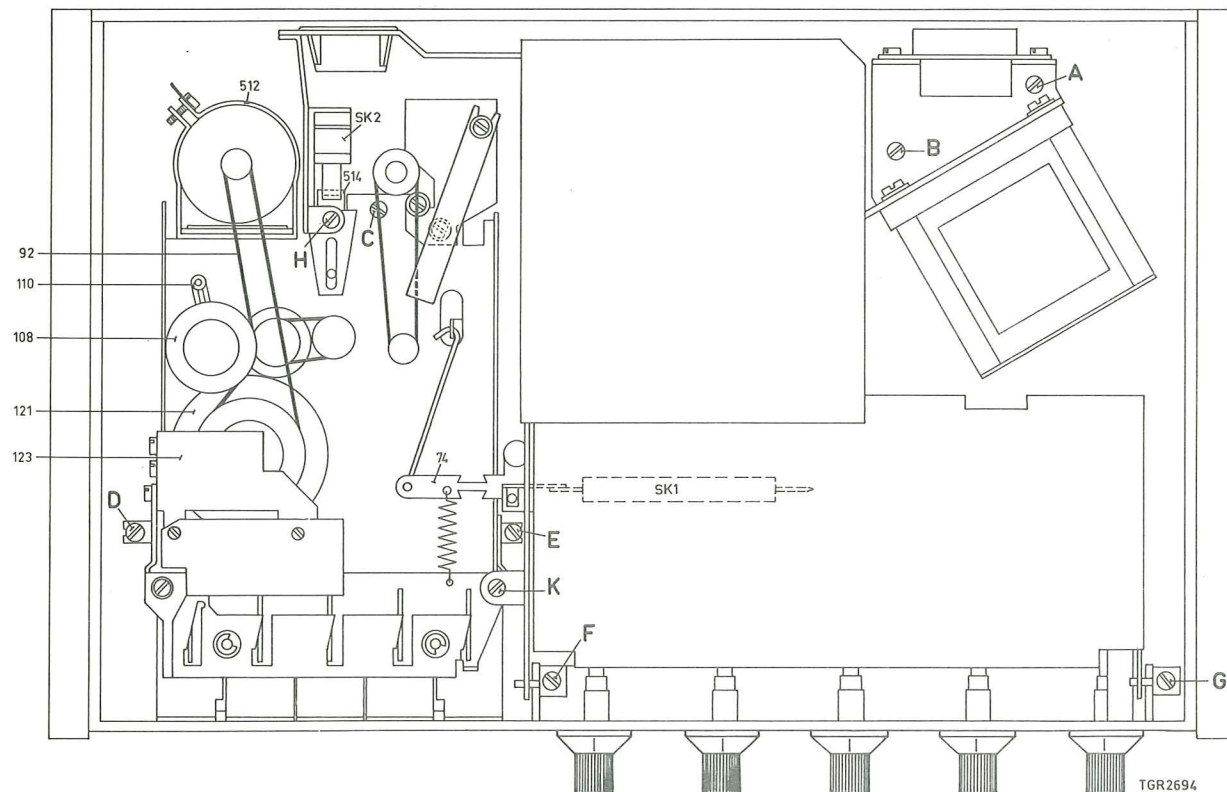

Fig. 3
- Remove the screws A, B, C, D, E, F and G (see Fig. 3).
- Remove the screws A, B, E, H and K (see Fig. 3).